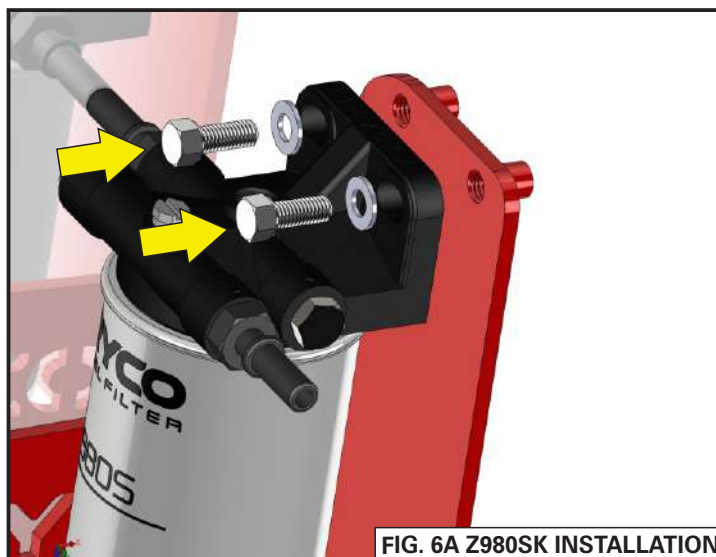

FIG. 6A Z980SK INSTALLATION
- Using the M10 Bolts and Washers supplied in the Ryco Z980SK fuel water separator kit, attach the Z980SK to the FB9805FC bracket as shown in FIG. 6A.